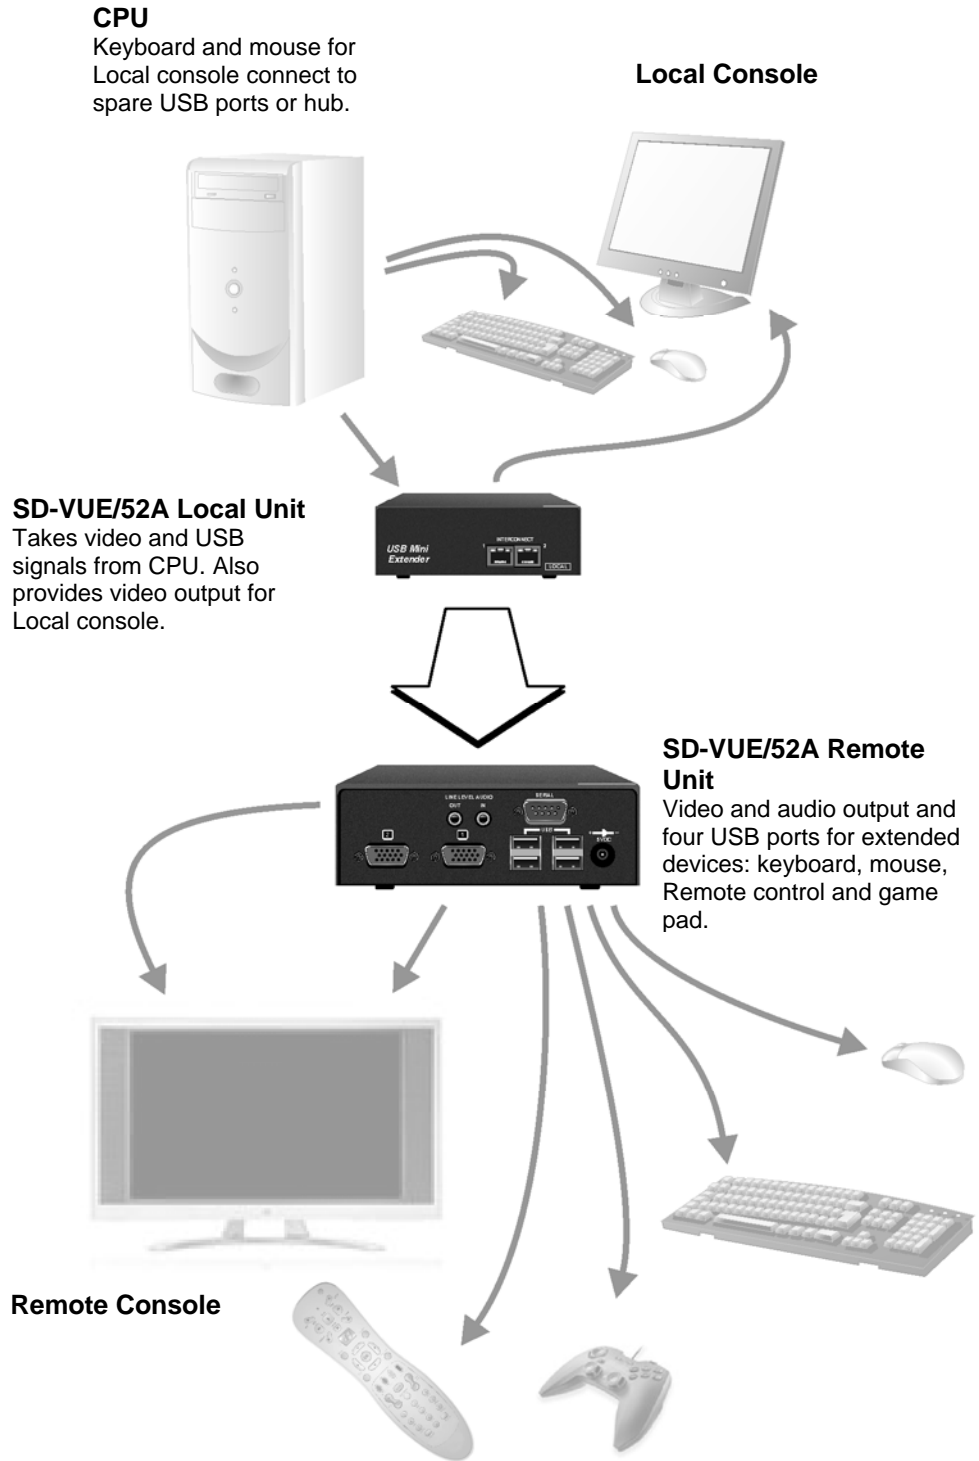

Figure 8 Home entertainment system
- SD-VUE/52A configured for home entertainment system with extension of USB devices (remote control, game pad, keyboard and mouse) and video (Figure 8). Use of USB Mini Extender allows clutter and noise of CPU to be removed from viewing area.